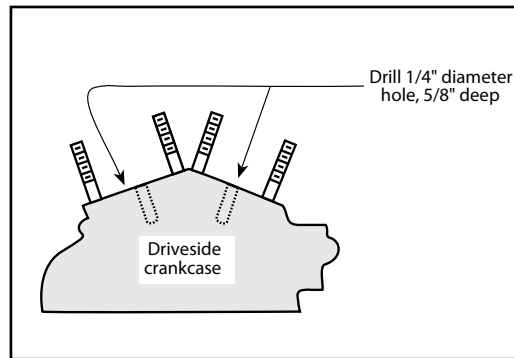

Figure 5
- Drill 1/4" diameter hole perpendicular into crankcase gasket surface 5/8" deep. **See Figure 5, below right.**